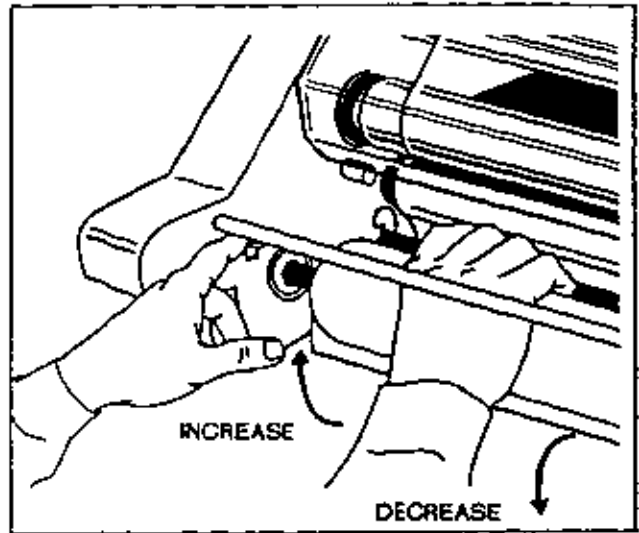

Fig. 10
2. Refer to Figure 10 for the proper rotation of the film to increase or decrease the tension.